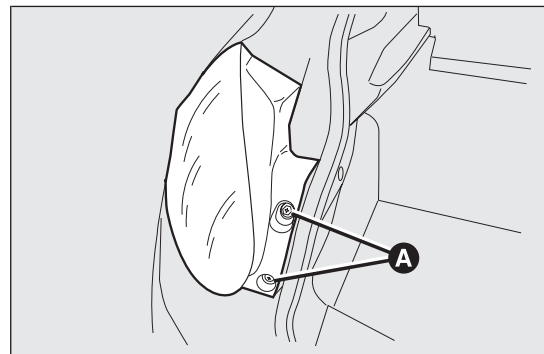

fig. 165
- open the luggage compartment and loosen the two rear light cluster fastening screws A fig. 165;